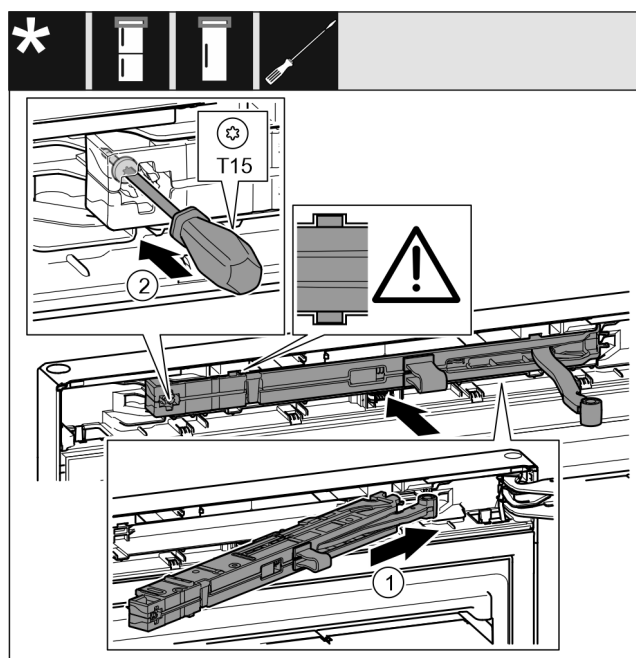

Fig. 22
- ▶ Slide the closing damper unit *Fig. 22 (1)* on the swap bearing block side up to the stop diagonally into the recess.
- ▶ Tighten the screw *Fig. 22 (2)* with a screwdriver.